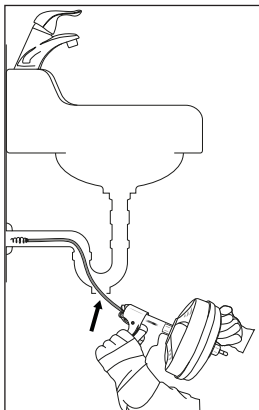

Fig. 1
- Prepare the appliance and work area according to these instructions to reduce the risk of injury from electric shock, fire, the appliance tipping over, a twisted or broken spiral ⑧, injury from chemicals, infections or other causes and to prevent damage to the appliance.
- For other washbasins, a cleaning plug or an odour trap may need to be removed (see Fig. 1). Be sure to place a container under the cleaning opening or under the odour trap to catch any leaking water.